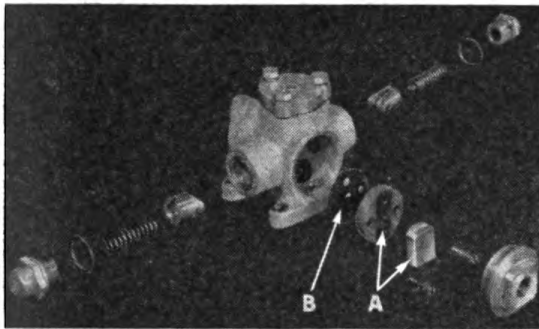

Figure 171
(a) To reseal slide valve ("A" Figure 171) or replace valve seat gasket ("B" Figure 171), refer to operations a(1) and a(2) page 76. The valve seat and gasket can now be removed.
Always replace the valve seat gasket (See Figure 171). If the valve requires replacement, always replace the valve and valve seat as one unit.